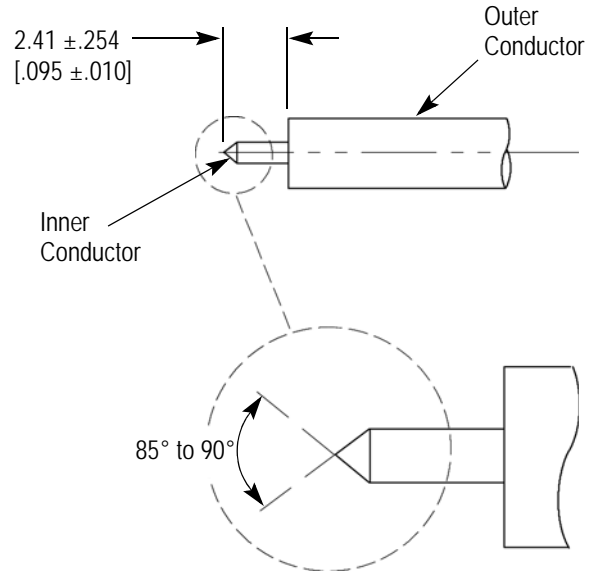

Figure 4
1. Trim the inner conductor to the length shown in Figure 4.